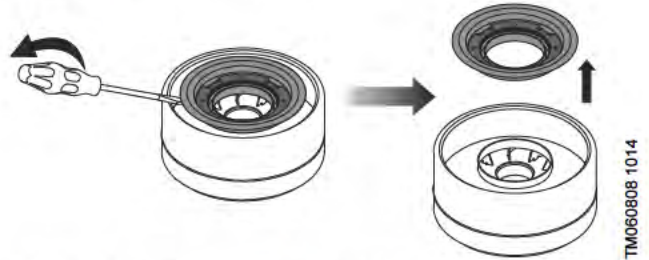

Fig. 8 Removing complete neck ring
1. Push the complete neck ring up and free from chamber (pos. 4/4a) or inlet part (pos. 44) using a screwdriver. See fig. 8.